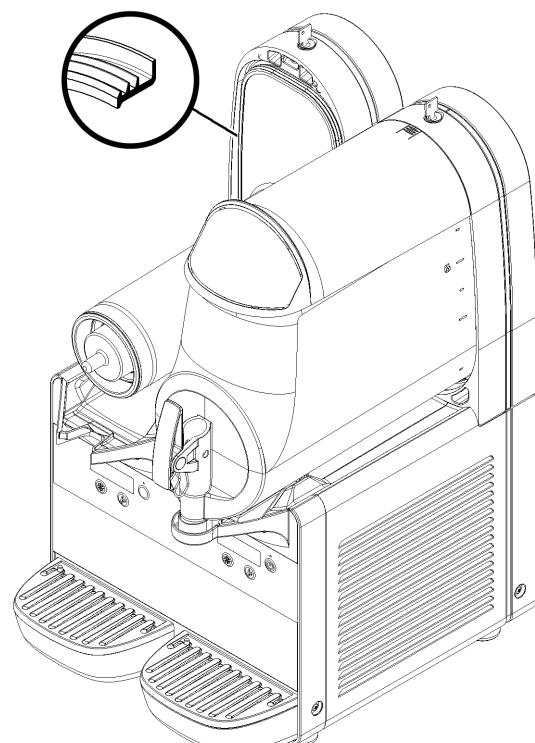

figure 11
N.B. the rim with the greater diameter must be rested on the rear wall (see figure 11).